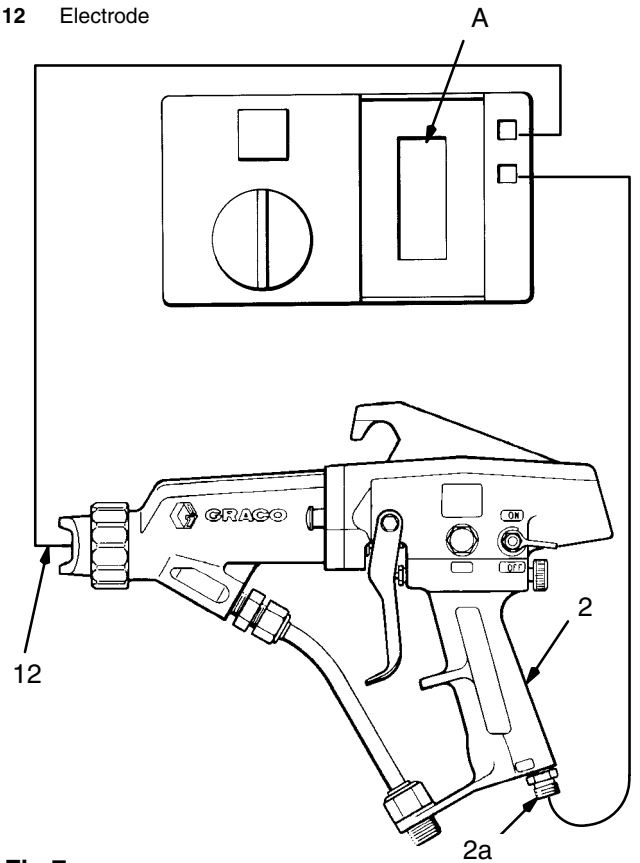

Fig 7
Measure the resistance between the end of the electrode (12) and the gun air fitting (2a). See Fig 7. The resistance should be between 115–152 megohms. If the resistance is outside the specified range, go to the next test. If the resistance is correct, refer to the **Electrical Troubleshooting Chart** on page 15 for other possible causes of poor performance.